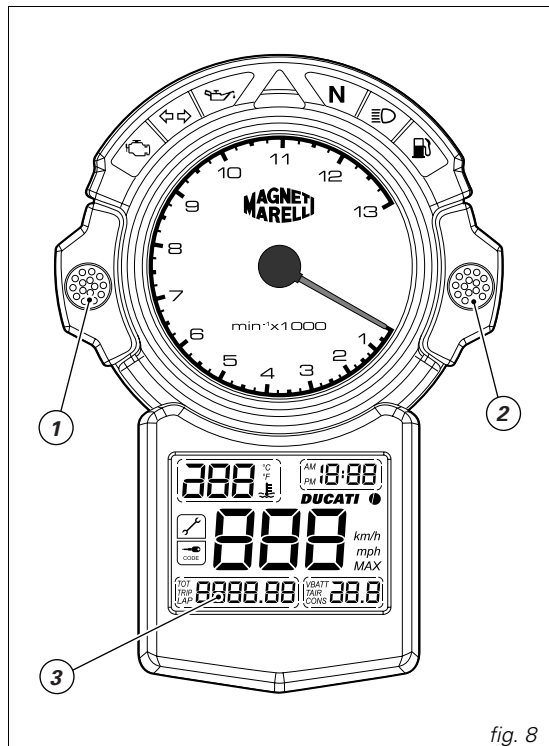

fig. 8
Hold down button (1, fig. 8) for at least 2 seconds.
To select AM/PM, press button (2, fig. 8). Press the button (1) to confirm selection and enter hours setting mode.
Select TRIP indication in the display (3, fig. 8). Hold down the button (2) for at least 2 seconds to reset displayed trip meter indication.
The engine control unit transmits the correct vehicle model and unit measurement information automatically for the instrument panel to display. To force a change of these parameters, turn the key from OFF to ON while holding down both buttons (1, fig. 8) and (2, fig. 8).